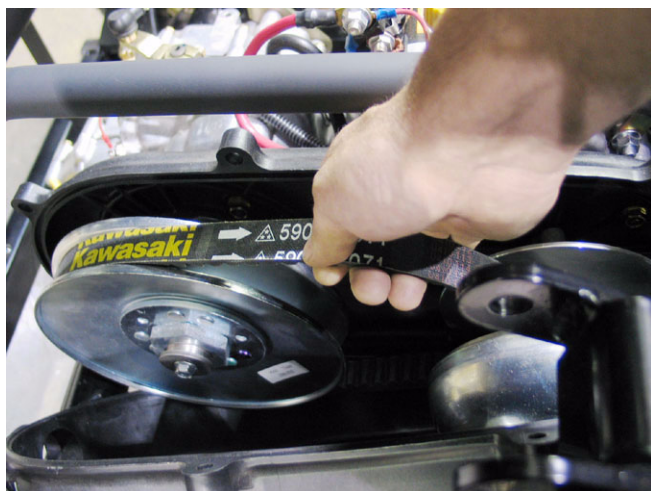

Figure 5.45
5.45. Tug upward on the top run of the belt. This will spread the sheaves of the driven pulley, and create enough slack in the belt to allow easy removal. See Figure 5.45.